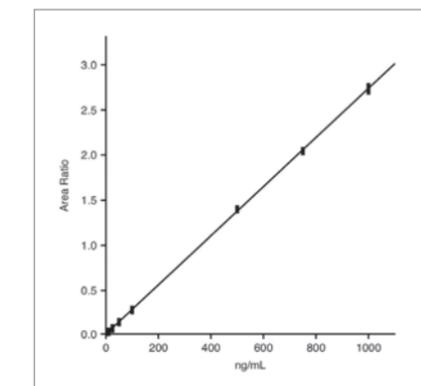

Figure 1: Diclofenac linearity over the dynamic range 1 to 1000 ng/mL
Extracted diclofenac standards from human plasma gave a linear calibration curve over the dynamic range of 1 to 1000 ng/mL with an  $r^2$  coefficient of 0.999 (Figure 1). Six replicates of a 15 ng/mL Quality Control (QC) sample were analysed. The precision of the QC was less than 4.4% CV (Table 1). Overspikes were run in triplicate at a concentration of 15 ng/mL and used to calculate the 85.8% percentage recovery level for diclofenac.